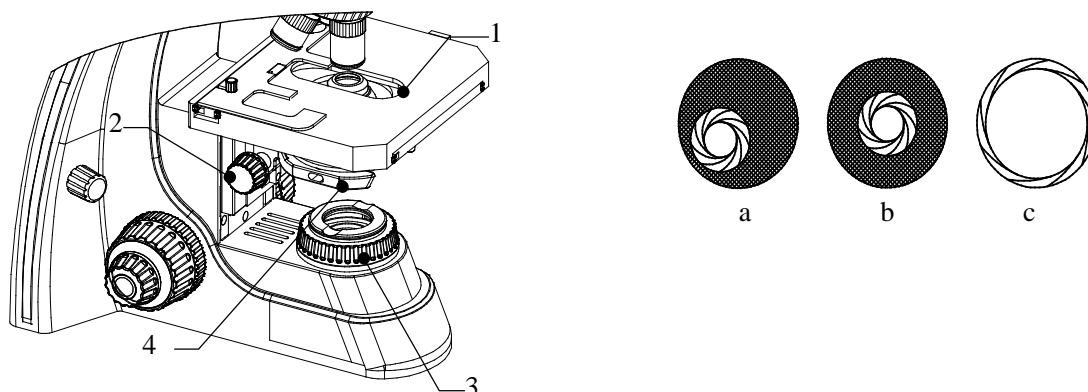

Fig.4
- (1) Put the sample on the glass stage 1, adjust the .Condenser Adjustment knob 2, and make the condenser to the highest position.
- (2) Turn 10X objective into optical path, turn down the field diaphragm 6 little compare with field, as shown in Fig. 4-a, if the field diaphragm not in the center of field, it can be adjusted by the two inner hexangular wrench's to the center of field ,as be shown in Fig.4-b. Restart the field diaphragm to larger than field shown in Fig.4 -c